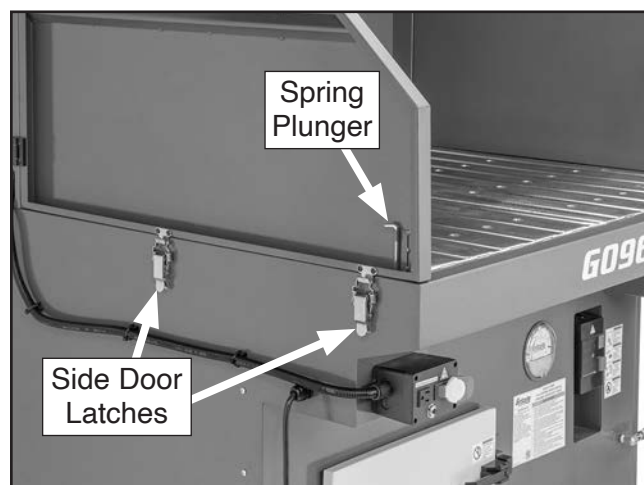

Figure 31. Location of side door components.
1. Unlatch (2) side door latches (see **Figure 31**).
2. Lift spring plunger out of table in order to swing door out (see **Figure 31**).
1. Lift spring plunger, swing door closed, then lower plunger into table (see **Figure 31**).
2. Latch (2) side door latches to secure (see **Figure 31**).